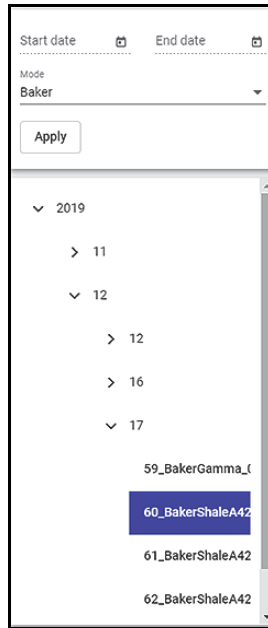

Figure 5-7 Result selected in list
5. In the list that appears, choose the date and result that you want to display (see Figure 5-7 on page 72).